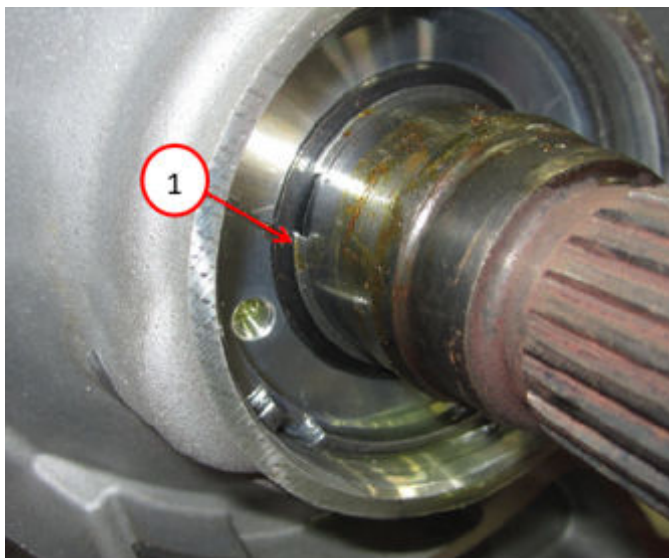

Fig. 4
7. Remove the output shaft snap ring Fig. 4.